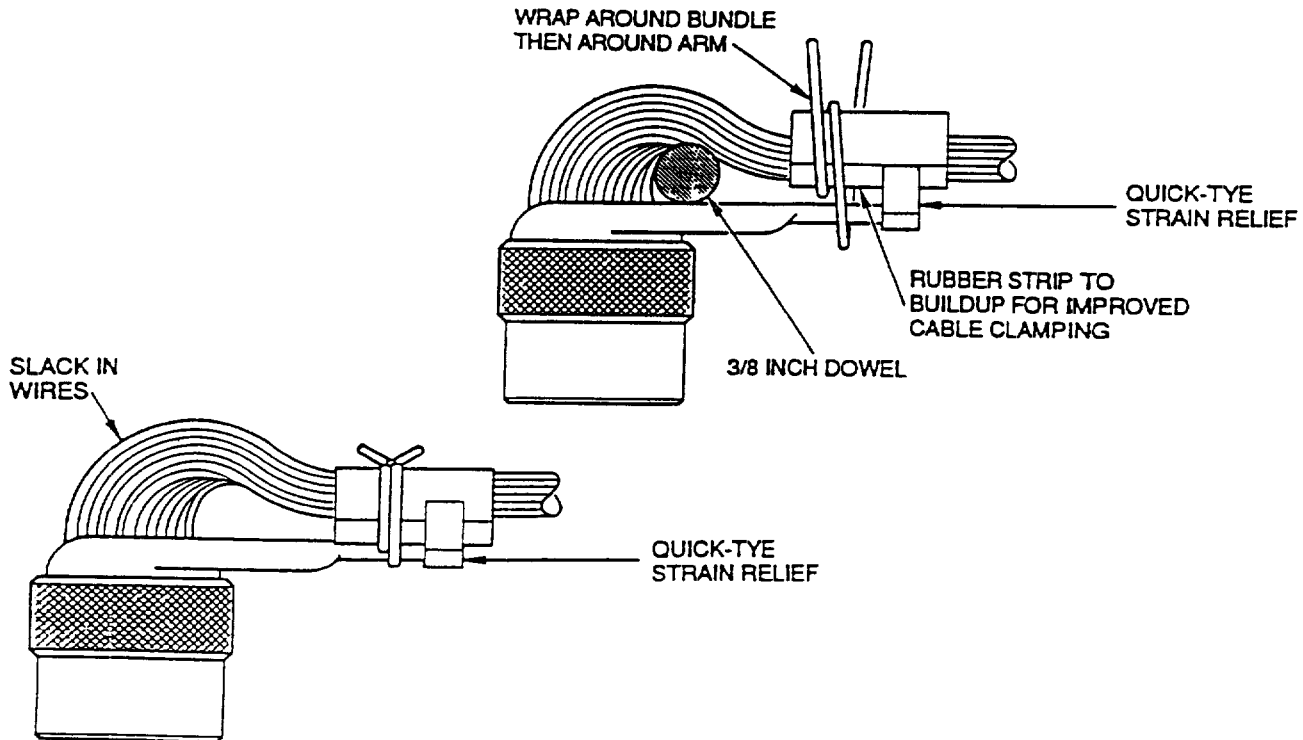

Figure 29. Lacing a Quick-Tye Strain Relief
61. **Quick-Tye Strain Relief Installation.** Upon completion of the connector repair, install the Quick-Tye strain relief as follows (Figure 29):